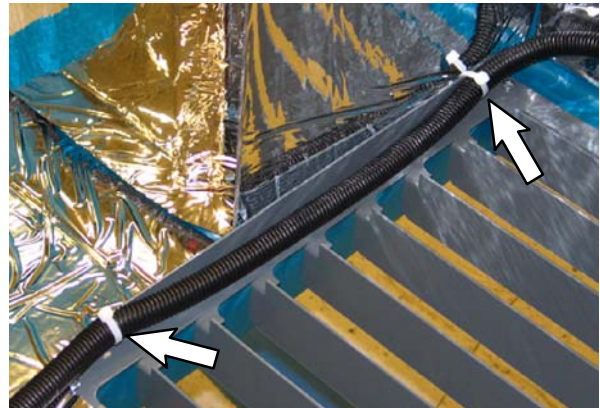

FIG. 9
18. Use two cable ties to secure the alarm / strobe harness (13) to the rear louvre panel on the main cover. (Fig. 9)